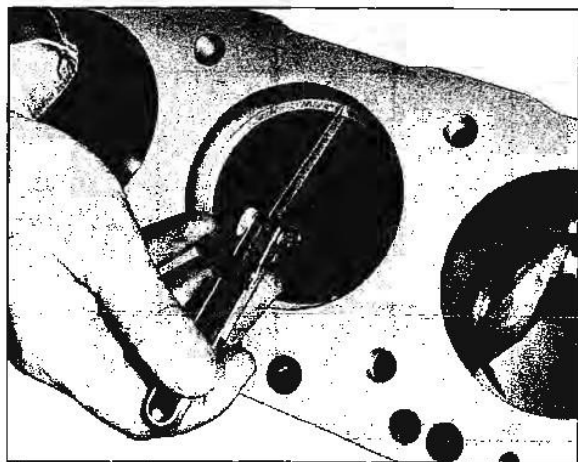

Fig. 6-66 Checking Ring Gap
3. Measure gap between ends of ring with feeler gauge (Fig. 6-66). Gaps should be as follows: